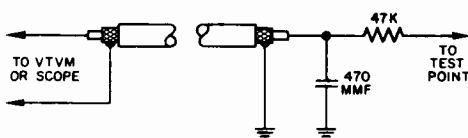

Figure 14 - Decoupling Network
**Oscilloscope and VTVM** - Use a low-capacitance direct probe terminated with the decoupling network shown in Figure 14. Keep the oscilloscope calibrated for 2 volts peak to peak (P-P). Use a VTVM range suitable for measuring -1.5 volts.